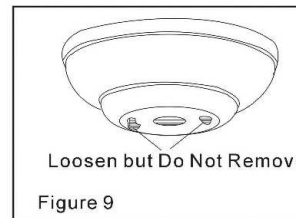

Figure 9
2. Remove the mounting plate from the canopy by loosening the screws on the top of the canopy. Remove two non-slotted screws and loosen the slotted screws. This will enable you to remove the mounting plate (Figure 9)